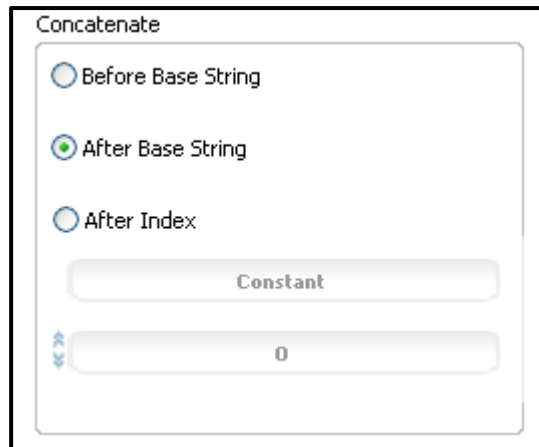

Figure 116. Choose where to insert.
4. When the strings are added, choose where to insert the concatenated string [Figure 116].